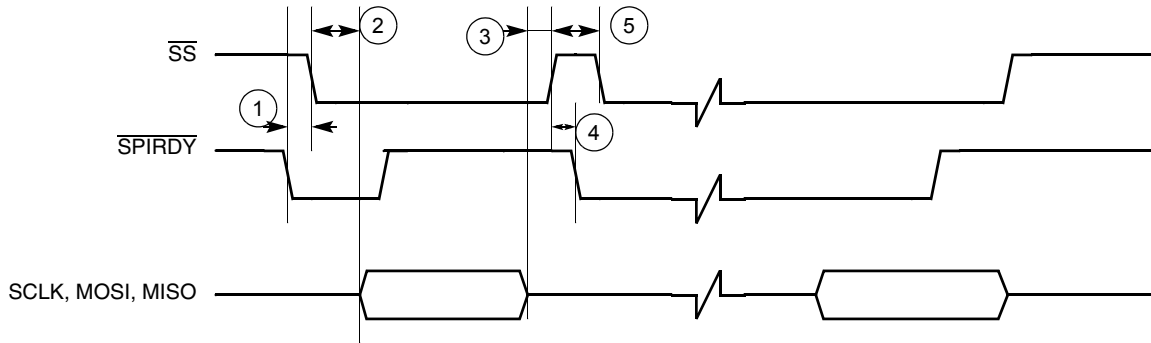
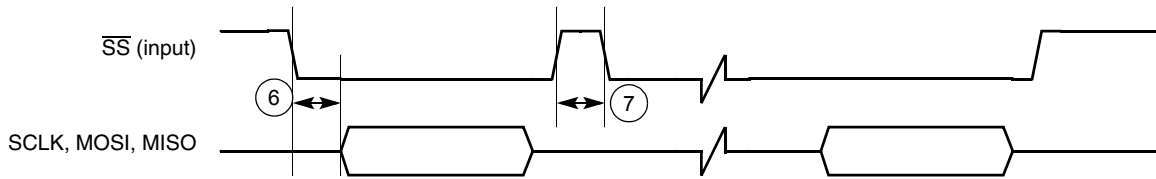

Figure 39. Master SPI Timing Diagram Using $\overline{\text{SPI_RDY}}$ Edge Trigger
Figure 43. Slave SPI Timing Diagram FIFO Advanced by $\overline{\text{SS}}$ Rising Edge
To use the internal transmit (TX) and receive (RX) data FIFOs when the SPI 1 module is configured as a master, two control signals are used for data transfer rate control: the \overline{SS} signal (output) and the SPI_RDY signal (input). The SPI1 Sample Period Control Register (PERIODREG1) and the SPI2 Sample Period Control Register (PERIODREG2) can also be programmed to a fixed data transfer rate for either SPI 1 or SPI 2. When the SPI 1 module is configured as a slave, the user can configure the SPI1 Control Register (CONTROLREG1) to match the external SPI master’s timing. In this configuration, \overline{SS} becomes an input signal, and is used to latch data into or load data out to the internal data shift registers, as well as to increment the data FIFO. Figure 39 through Figure 43 show the timing relationship of the master SPI using different triggering mechanisms.
Table 24. Timing Parameter Table for Figure 39 through Figure 43